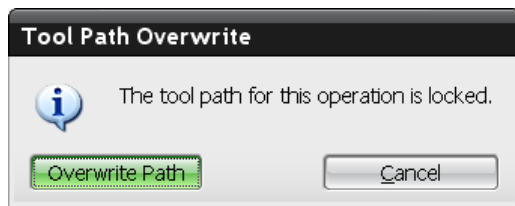

Figure 8.8. Message concerning tool path overwrite
31. A dialog box will appear (as in figure 8.8).